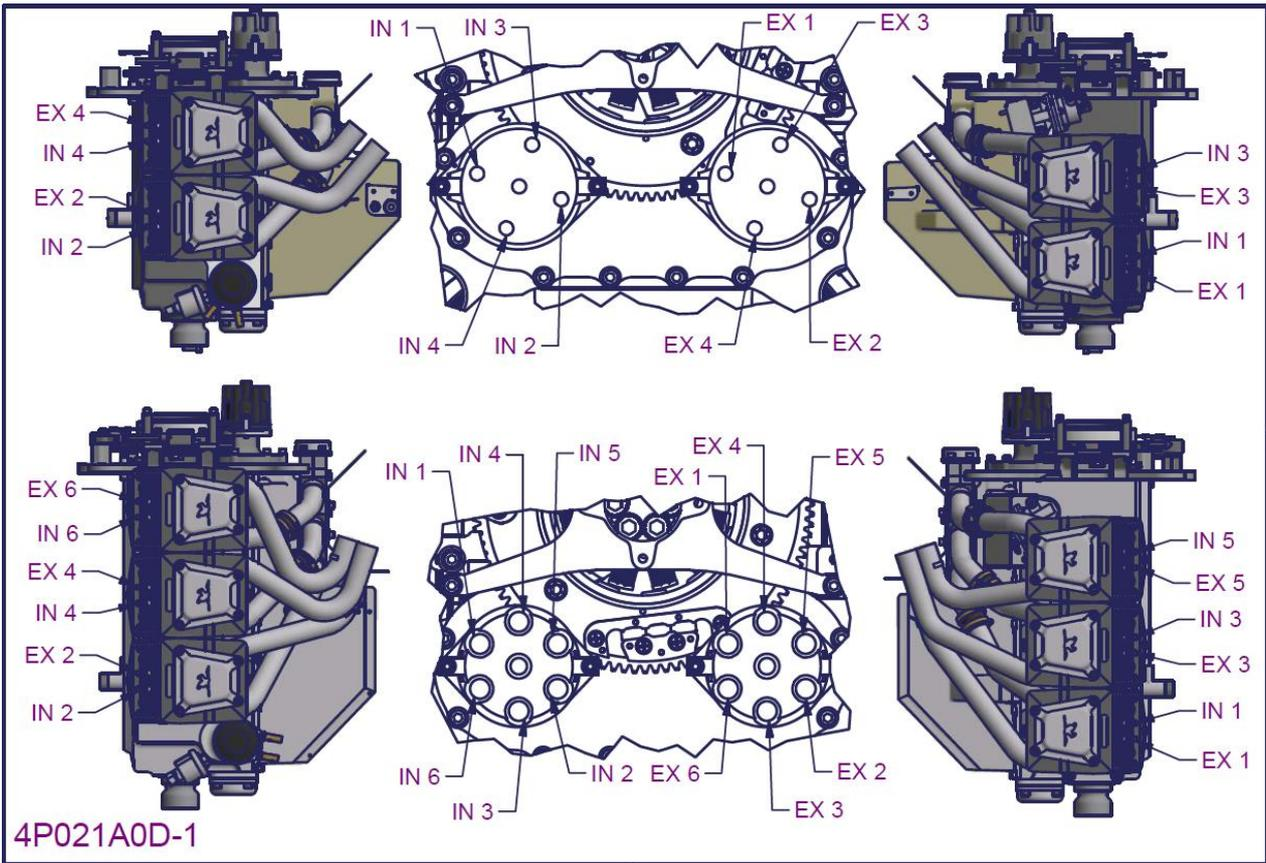

Figure 179 – 2200/3300 Ignition system installation 4
- Figure 179 provides a map of the ignition system with each distributor outlet labelled with the corresponding spark plug position. Each ignition lead must be connected between the correct distributor outlet and spark plug. ('IN' refer to the spark plug on the inlet side of the cylinder 'EX' is on the exhaust side of the cylinder).